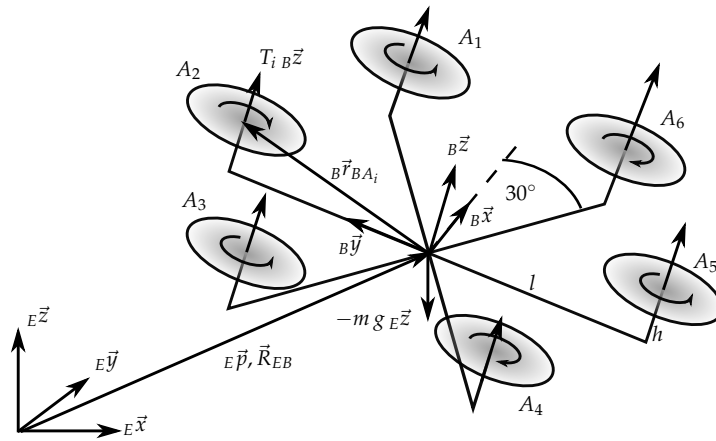

Figure 1: Hexacopter model. Note that the rotation arrows on the propellers represent the spinning direction of the propeller.
In this exercise, the full dynamic model of a hexacopter has to be derived assuming that the vehicle is a rigid body. The dynamic model has to be represented as a set of ordinary differential equations. The hexacopter structure is shown in Figure 1 including forces and torques acting on the vehicle and inertial and body frames.
2. From Figure 1 write the linear mapping between the square of rotors angular velocity $\omega_{p,i}^2$ and the total forces and torques acting on the platform. i.e. find the so called *allocation matrix* \mathbf{A} in the following relation: